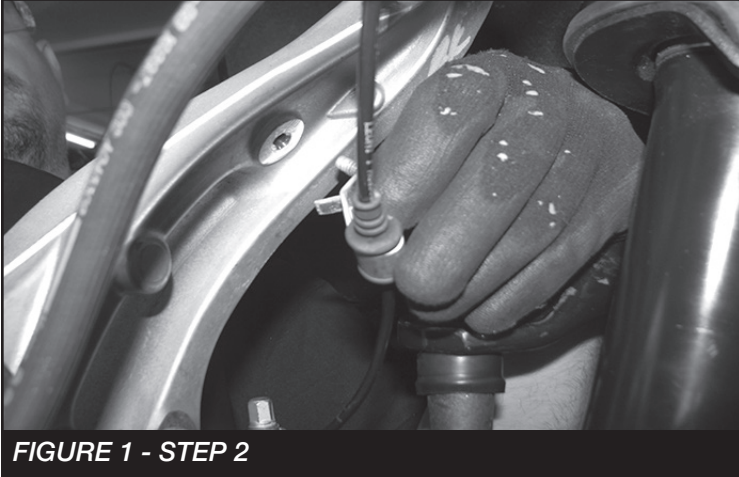

FIGURE 1 - STEP 2
2. Starting with the driver side. Unbolt the ABS wire from the back side of the knuckle and unclip it from the frame bracket. **SEE FIGURE 1**